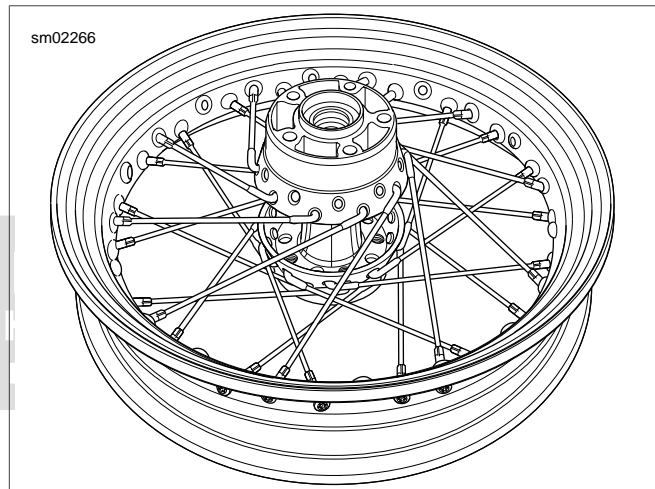

Figure 2-27. Sprocket Side Up: Bottom Row of Spokes Laced
8. See Figure 2-27. Place the remaining nine lower row spokes, angled clockwise, into hub and rim.